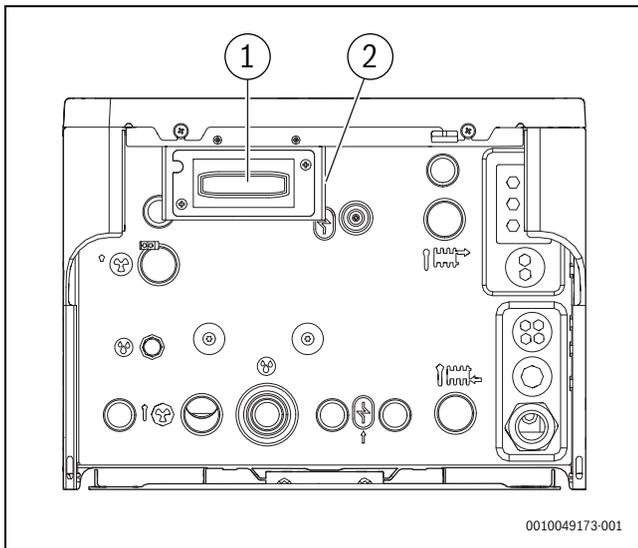

Fig. 9 Connect-Key K30RF placement
1. Open the lever (→[2], figure 9).
2. Place the module in the holder (→[1], figure 9).